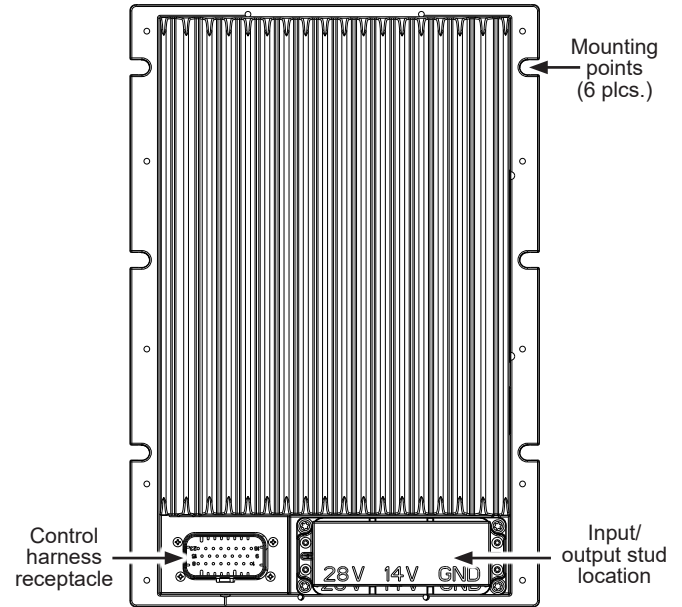

Figure 1: C2002 Equalizer Features
1. Find a suitable, flat location on vehicle and mount equalizer by the slotted mounting points (sized for M6 or 1/4" screws). Use hardened flat washers between mounting surfaces and bolt heads or lock washers. See Figure 1.